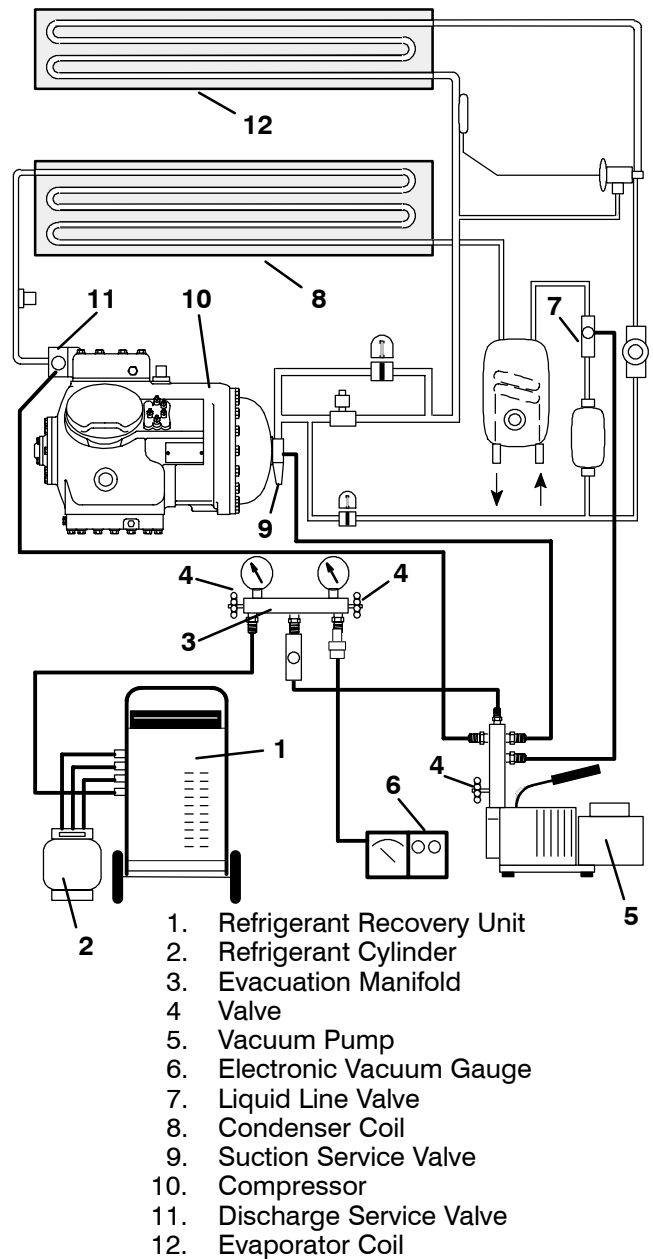

Figure 4-1. Vacuum Pump Connections
b. The recommended method to evacuate and dehydrate the system is to connect three evacuation hoses (Do not use standard service hoses, as they are not suited for evacuation purposes.) as shown in Figure 4-1 to the vacuum pump and refrigeration unit. Also, as shown, connect a evacuation manifold, with evacuation